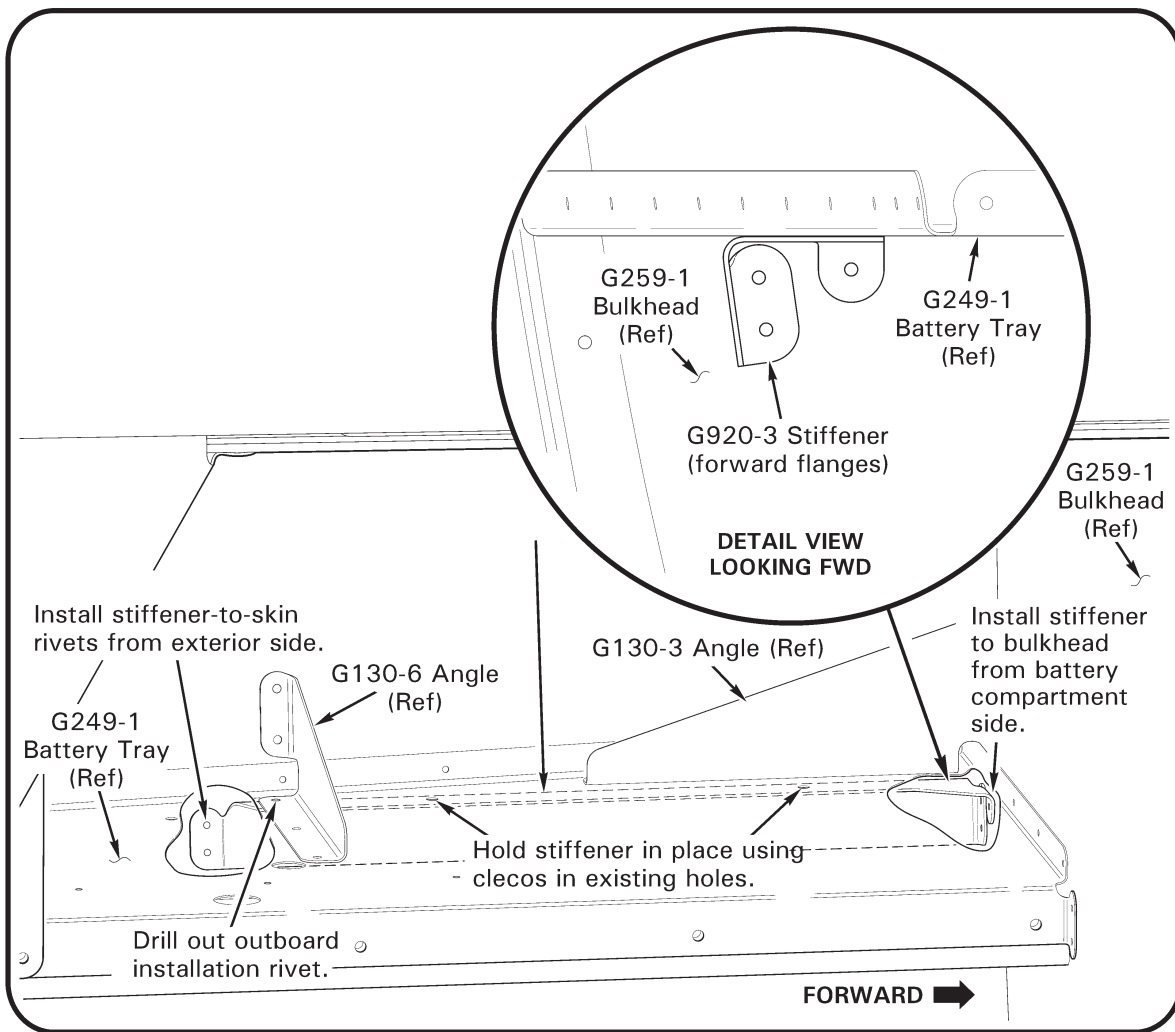

FIGURE 7 G920-3 Stiffener Installation
12. **For KI-263-1 only:** Refer to Figure 7. To install G920-3 stiffener:
- b. Using stiffener as template, progressively drill (5) 0.127–0.133 inch diameter holes and install clecos; two in G004-3 skin and three in G259-1 bulkhead. Remove stiffener and deburr holes.
- c. Cleco stiffener in place at two existing holes in G249-1 tray. Install: (1) MS20470AD4-3.5 rivet in drilled-out rivet hole, (2) NAS9301B-4-02 rivets in G004-3 skin (from exterior), and (3) MS20470AD4-3.5 rivets in bulkhead.